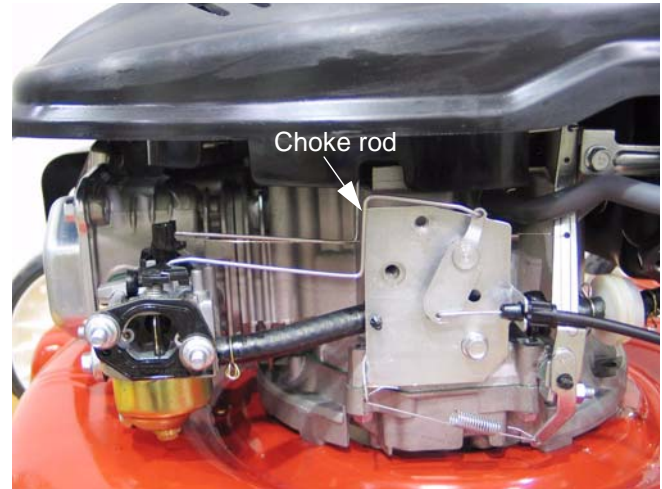

Figure 8.8
- 8.8. The rod connecting the choke lever to the choke arm on the carburetor can be bent slightly to facilitate adjustment. See Figure 8.8.